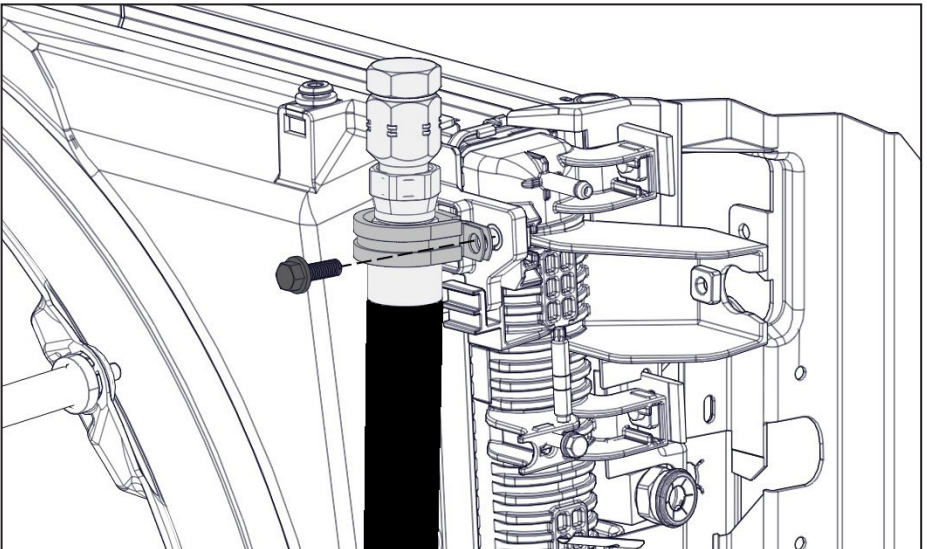

Figure 64 — Oil fill hose
- ☐ Using the supplied P-clip and fastener, secure the oil fill hose to the to the radiator (Figure 64).